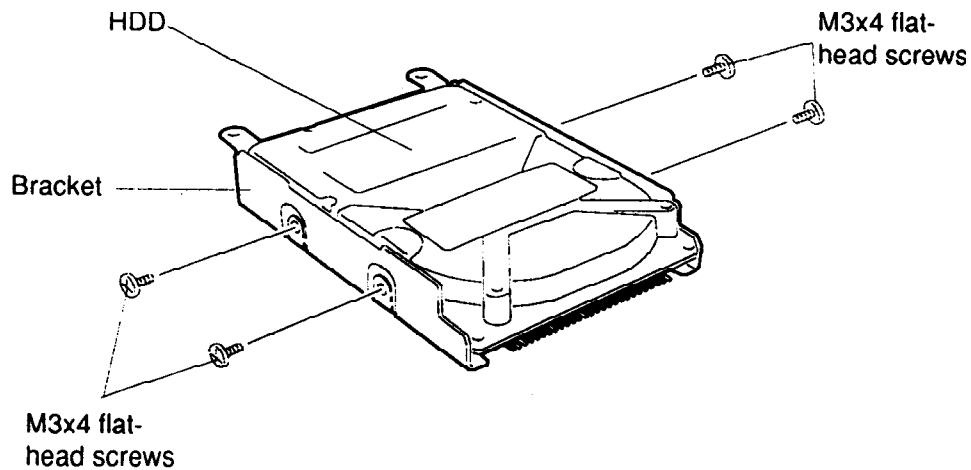

Figure 4-12 Removing the Bracket from the HDD
9. Remove the **four flat-head M3x4 screws** securing the **bracket** to the HDD and slip off the bracket (Figure 4-12).
1. Secure the **bracket** with the **four flat-head M3x4 screws** (Figure 4-12).